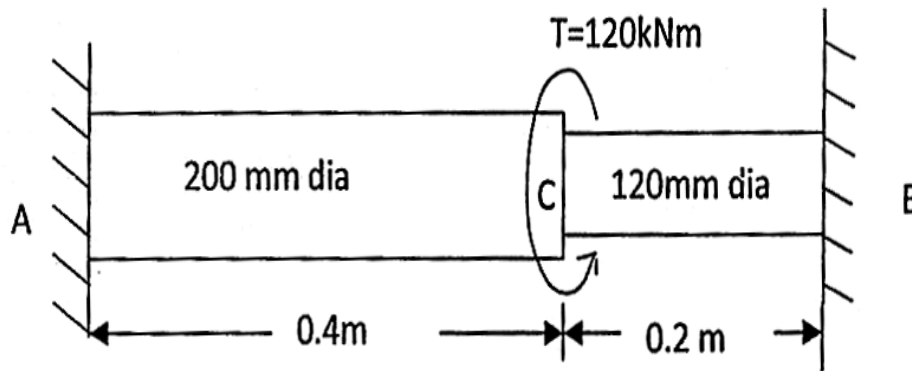

Fig. 6
6. (a) The stepped steel shaft shown in figure 6 is 600 mm long and fixed at both ends subjected to a torque 120 kNm at C. Determine the fixing torque at the ends, the maximum shear in the AC and BC and angle of twist of section C. Take $G = 80 \text{ GPa}$. [6]